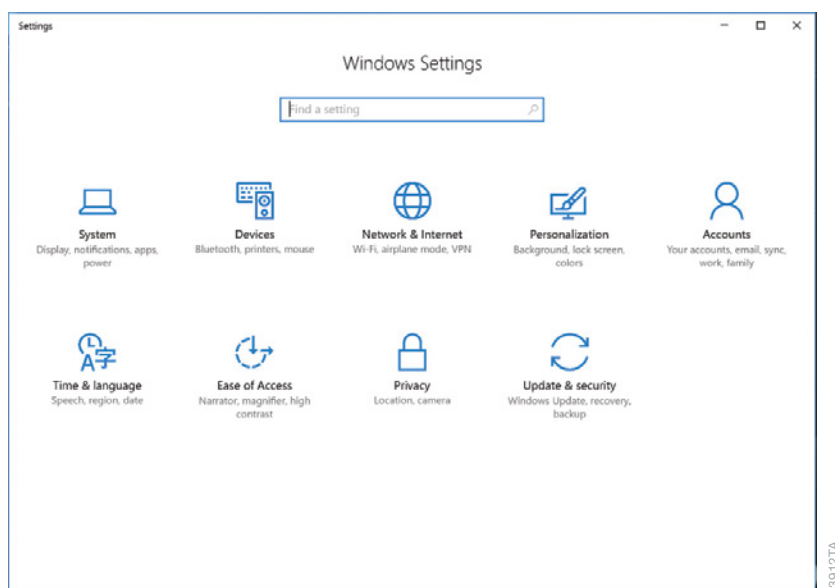

Figure 71. The 'Windows Settings' screen. This screen provides access to multiple functions that can be used to configure options and settings for the PC.
3. Select the **Settings** button to open the 'Windows® Settings' screen (Figure 71).